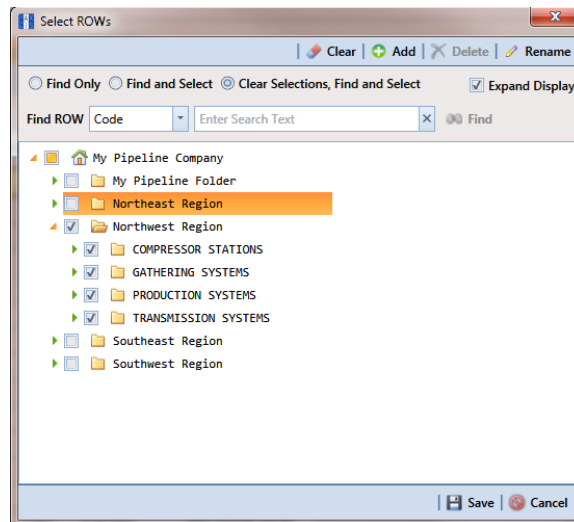

Figure 8-6. Select ROWs
- 1 Click the **Select ROWs** button  to open the *Select ROWs* window (Figure 8-6). Select one or more pipeline segments with facilities you want to include in the route. Click  **Save** to close the window.
- a** Select one or more pipeline segments in the *Select ROWs* window (Figure 8-6, page 357). Click **Save** to close the window.
- 1 Select one or more pipeline segments in the *Select ROWs* window (Figure 8-6, page 357). Select pipeline segments with facilities you plan to include in the route. Click  **Save** to close the window.
- 1 Select one or more pipeline segments in the *Select ROWs* window (Figure 8-6, page 357). Select pipeline segments with facilities you plan to include in a route for an averaged reading survey. Click  **Save** to close the window.